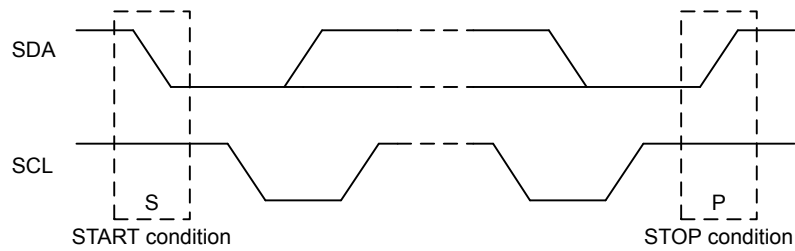

Figure 18.4. I2C START and STOP Conditions
START and STOP conditions are used to initiate and stop transactions on the I²C-bus. All transactions on the bus begin with a START condition (S) and end with a STOP condition (P). As shown in Figure 18.4 I2C START and STOP Conditions on page 518, a START condition is generated by pulling the SDA line low while SCL is high, and a STOP condition is generated by pulling the SDA line high while SCL is high.